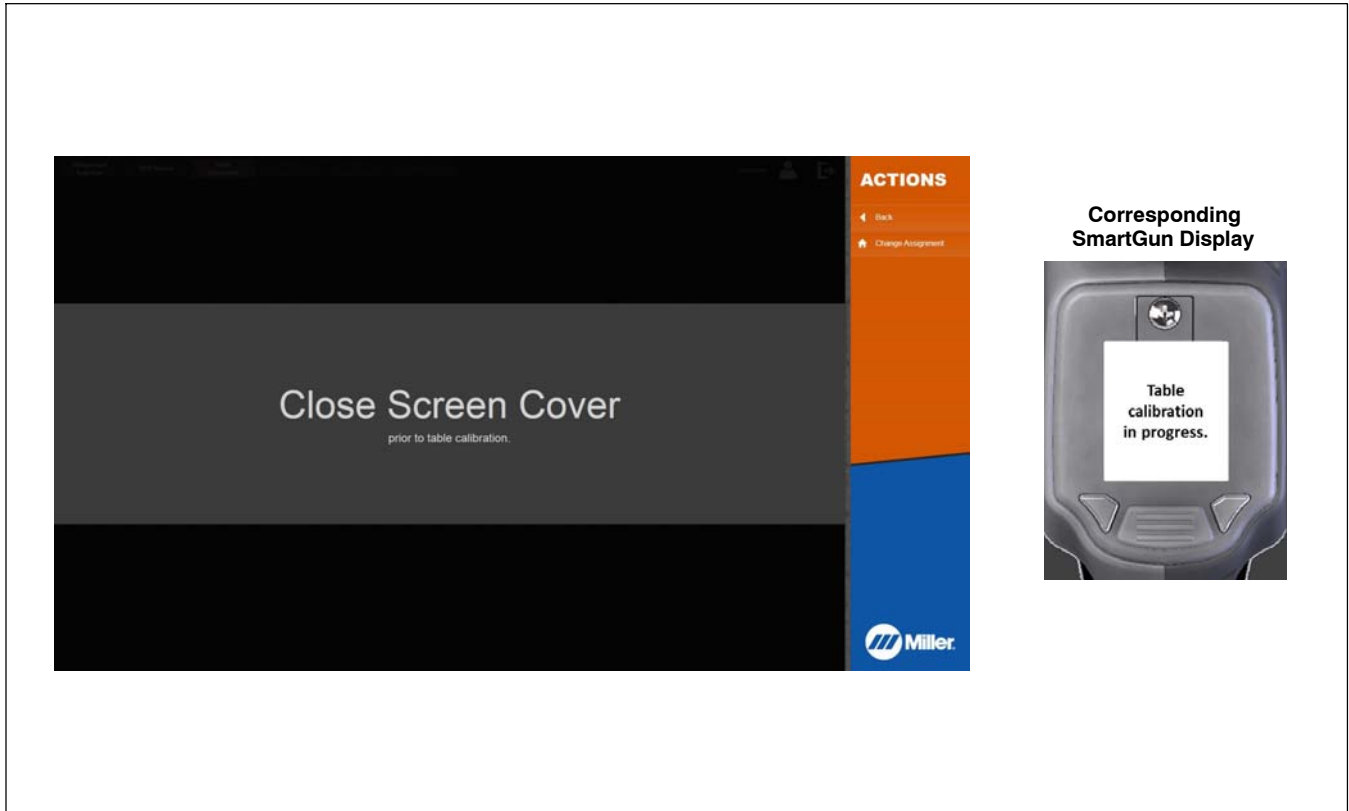
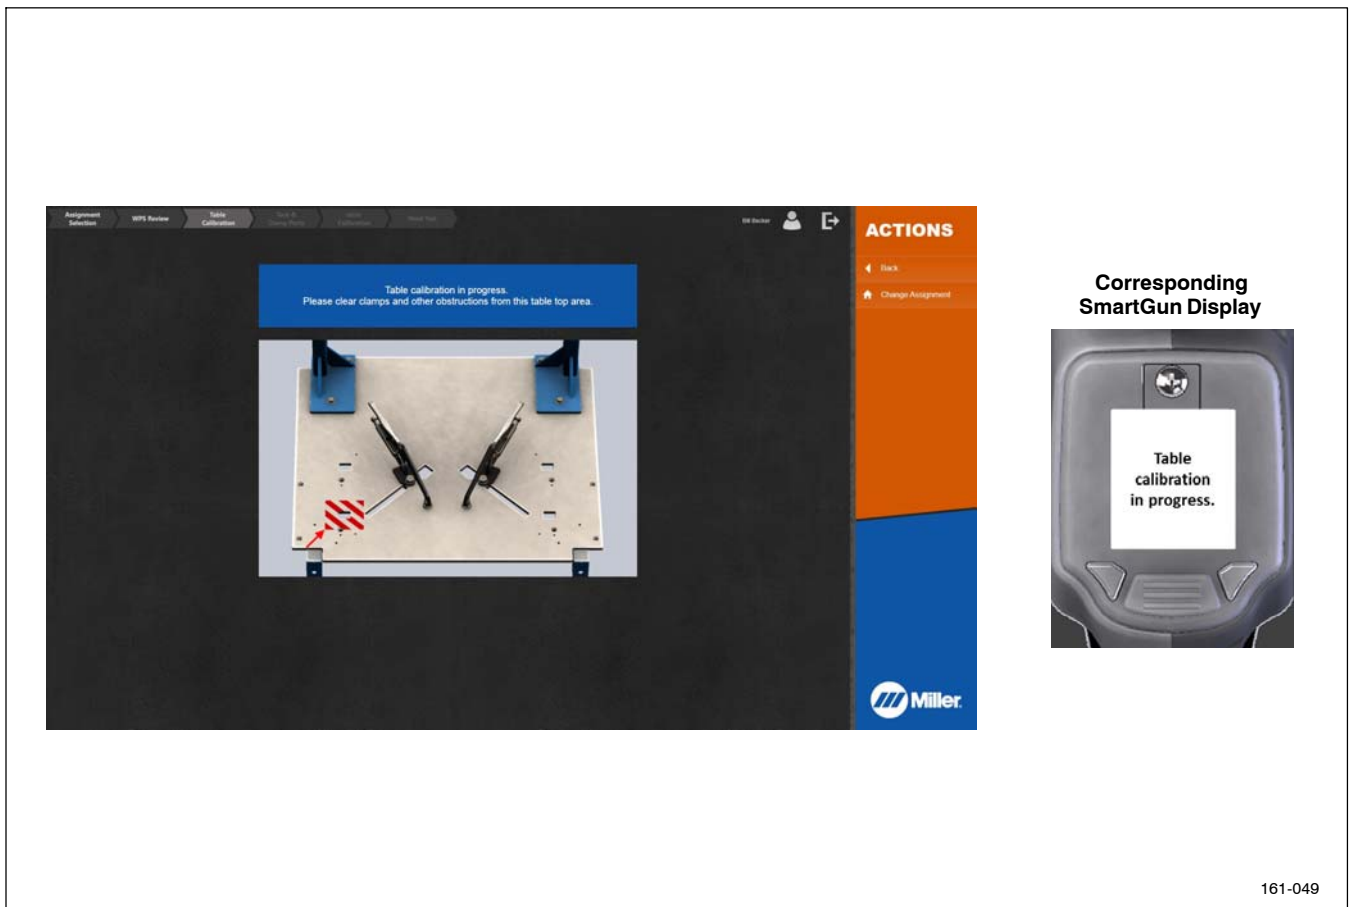
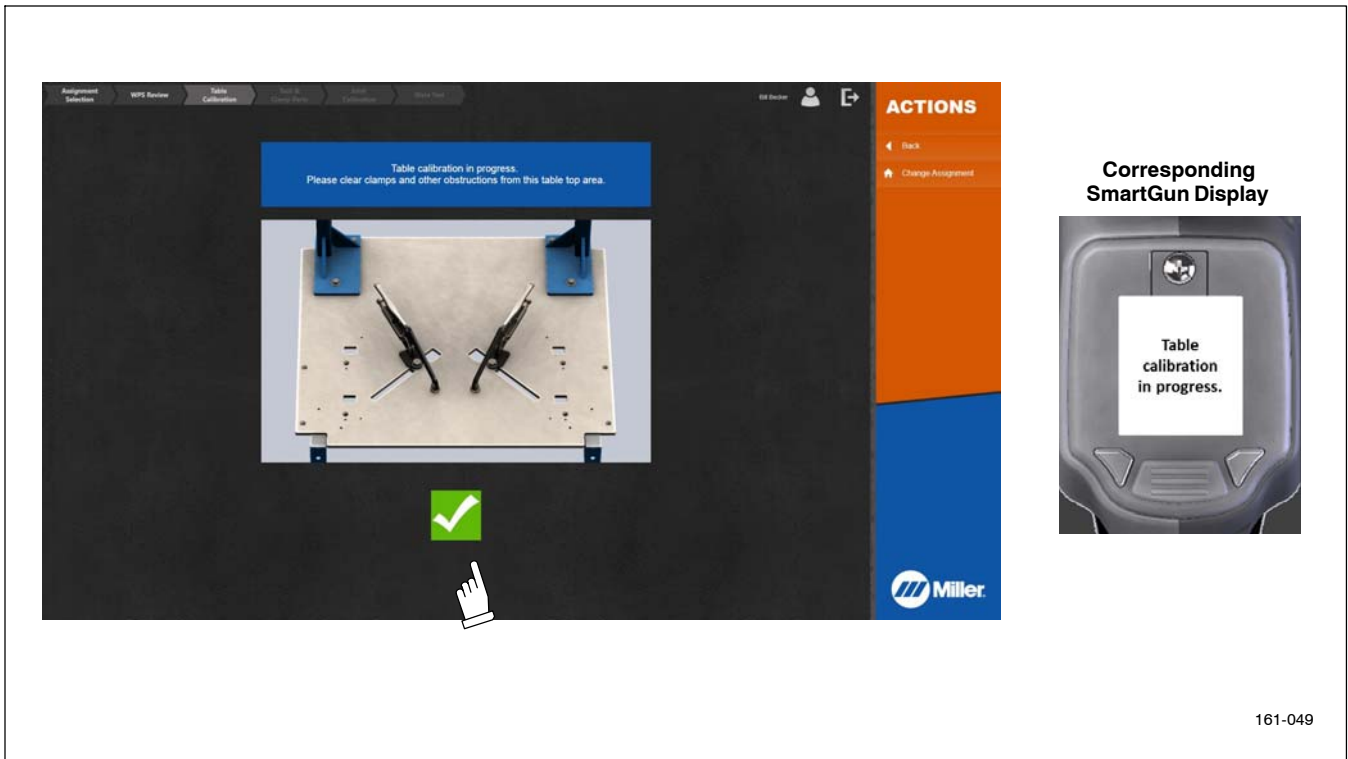

Figure 7-7. Close Cover To Begin Table Calibration
Figure 7-8. Example Of Message From Unsuccessful Table Calibration
Figure 7-9. Successful Table Calibration
1. Close touchscreen cover to enable table calibration process. Remove any objects blocking markers on table. See Figure 7-7, Figure 7-8, and Figure 7-9.